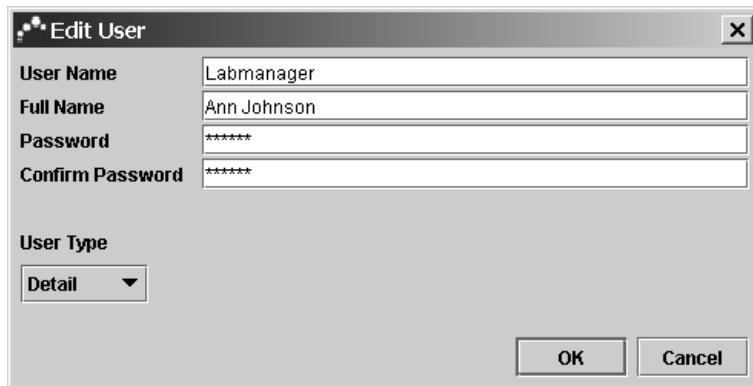

Figure 2-23. Edit User dialog box
2. Click **Edit**. The Edit User dialog box appears (Figure 2-23).